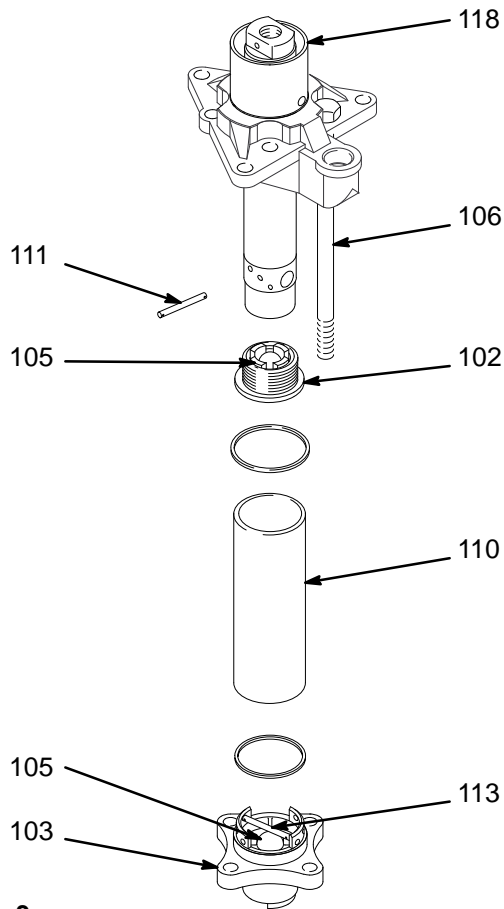

Fig. 3
The piston and intake check valves are factory-set for light viscosity fluids. This setting minimizes surging at pump stroke changeover. To adjust the valves for heavier viscosity fluids, unscrew the four tie bolts (106) and remove the intake valve (103) and cylinder (110). Remove the ball stop pins (111 and 113) and move them to a higher set of holes to increase the ball travel. See Fig. 3.